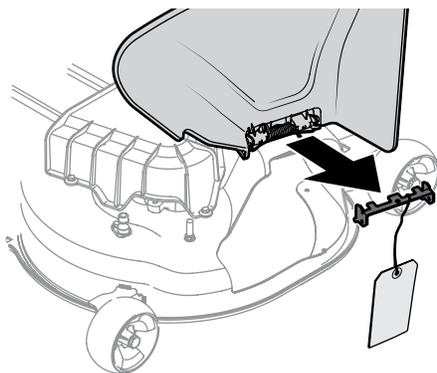

Figure 2-14
- Holding the chute deflector fully upward, remove the shipping brace. Lower the chute deflector and discard the shipping brace. See Figure 2-14.